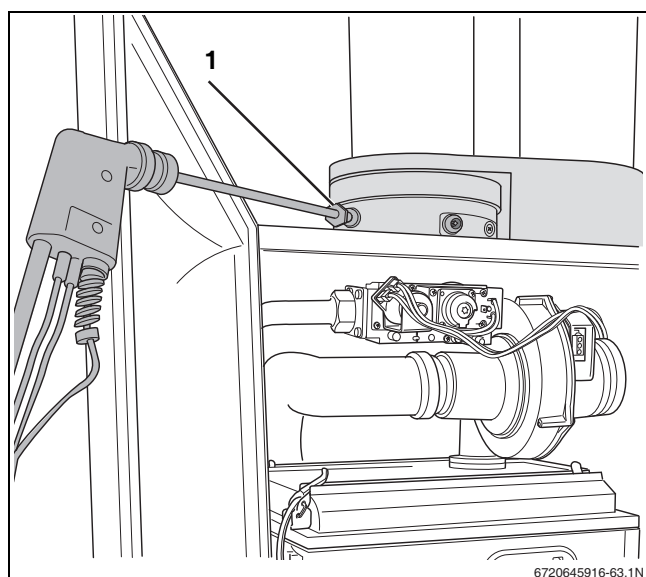

Fig. 70 Measuring the flue gases CO emissions
- ▶ Remove the cover from the flue gas measuring point (→ fig. 70, [1]).
- ▶ Connect the flue gas analyzer to the left-hand measuring point, insert it roughly 2" (→ fig. 70).